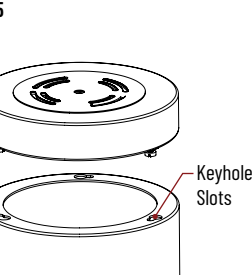

Figure 6
7. Twist the cylinder cap to lock the cylinder. Tighten screws inside cylinder. (Figure 6)